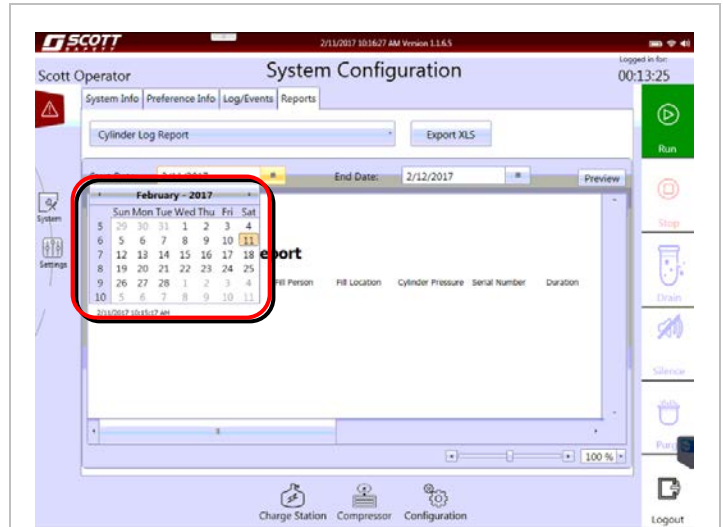

Figure 4.1-10: Start Date
- 11. Touch the down arrow next to the Start date to display a calendar. Use the left and right arrows to scroll through the months. Touch the date of the month to select the Begin date of the report. See Figure 4.1-10.